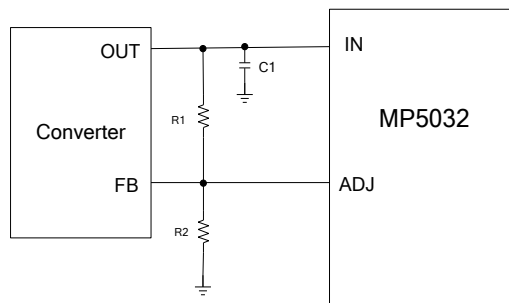

Figure 3: ADJ Configuration
Figure 3 shows the typical ADJ usage. The ADJ sink current capability is 500μA. The feedback current through R1 must be less than 500μA. Calculate R1 with Equation (1):